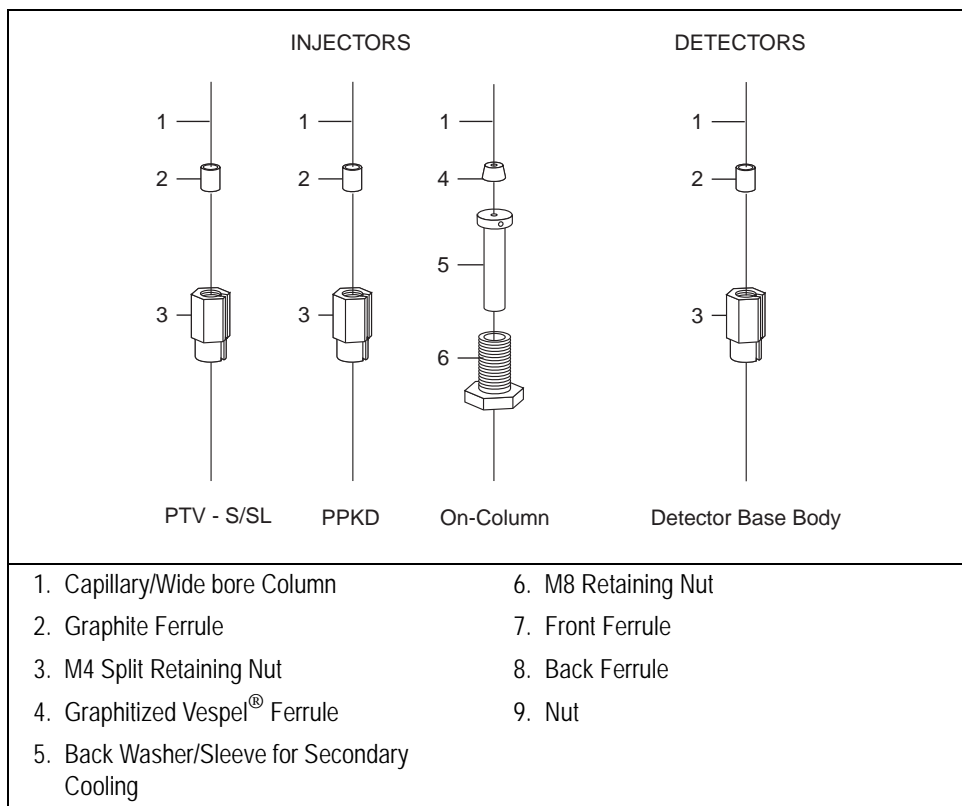

Figure 14-1. Capillary/Wide Bore Column to Injector and Detector Base Body Connections
On-column injectors require a dedicated M8 retaining nut. Figure 14-1 shows how to connect capillary or wide column to injector and detector base body.
1. Slide the M8 Vespel[®] ferrule, the secondary cooling sleeve, and the retaining nut onto the capillary column (or pre-column, if used). See Figure 14-1 on page 280 for the correct assembly order.